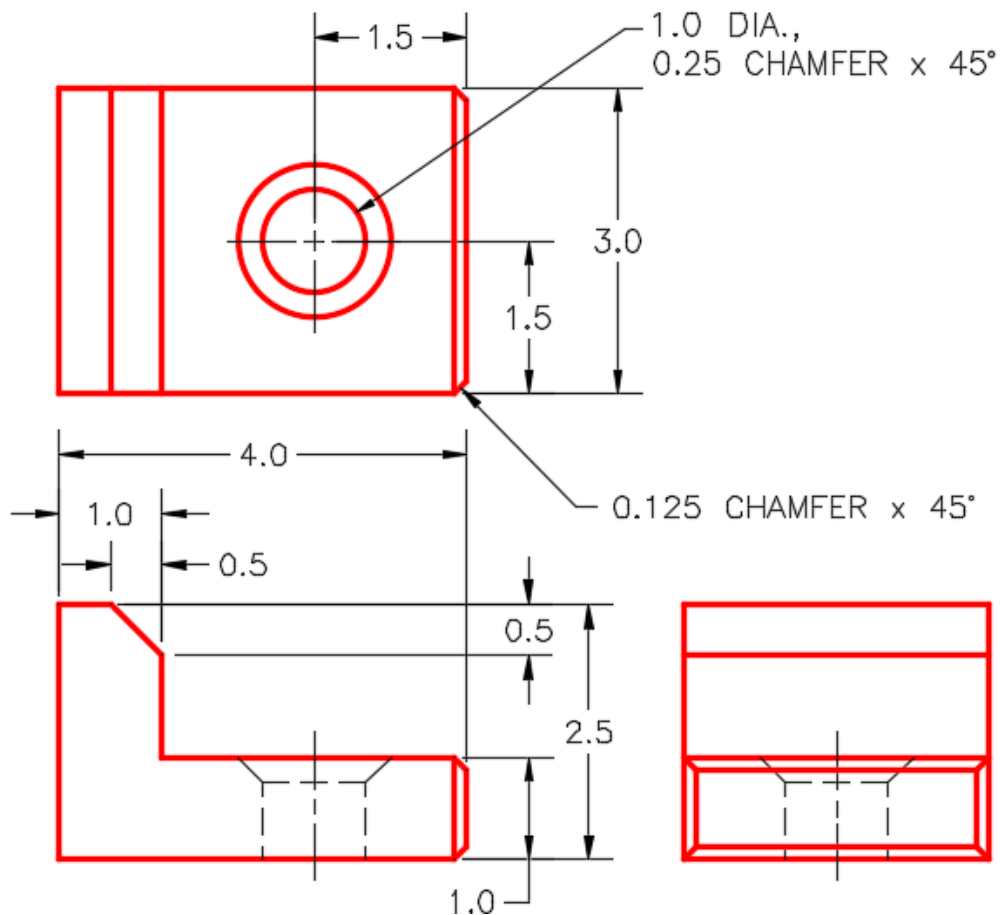

Figure Step 3
Step 3 Using the figures as a reference, draw the closed plines on layer: Pline. (Figure Step 3)